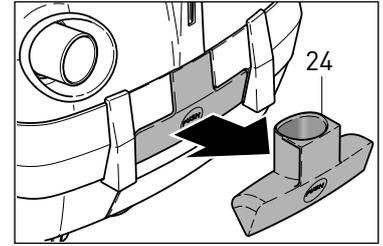
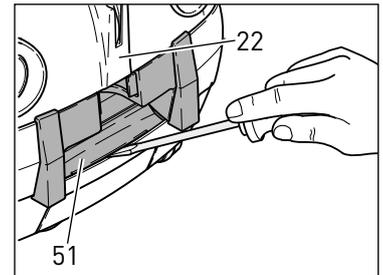
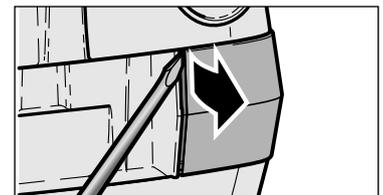

Figure 27
Figure 28
Figure 29
To remove the AIRBELT system (25 & 52), remove the upholstery tool from the rear of the machine (figure 27), and lever out the tool holder (51) using a slot-head screwdriver (figure 28). The AIRBELT system (25 & 52) can then be pried out of the recess with a screwdriver (figure 29) and removed by carefully sliding the assembly toward the front of the machine (figure 30). Remove the damaged textile (25) from the foam bumper (52).